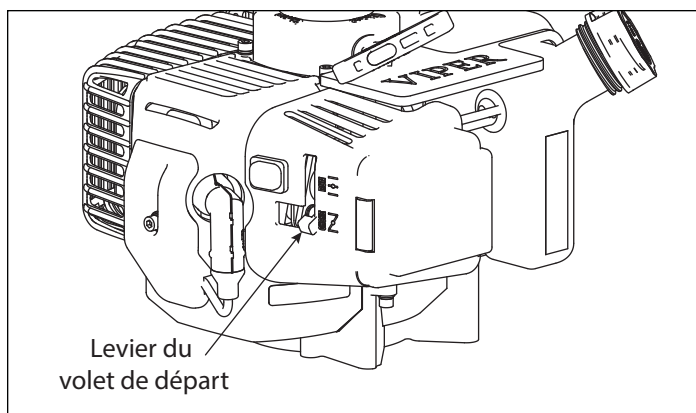

Figure 4
1. Before removing the air filter cover, move the choke lever to the **CHOKE** position. **SEE FIGURE 4.**